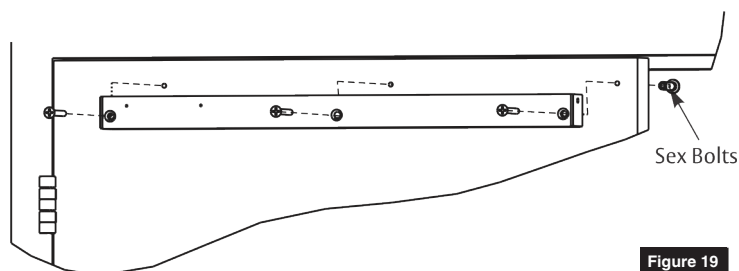

Figure 19
1. Using previously prepared holes in left door, install three (3) 1/4-20 x 1-5/8" screws through track and into sex bolts. (Figure 19)